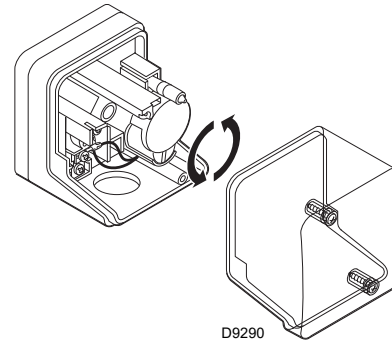

Fig. 47
- Adjust the minimum gas pressure (Fig. 47, page 34) switch to the start of the scale.
Adjust the minimum gas pressure switch (Fig. 47) after having adjusted the burner, the gas valves and the gas train stabiliser. With the burner operating at maximum output: